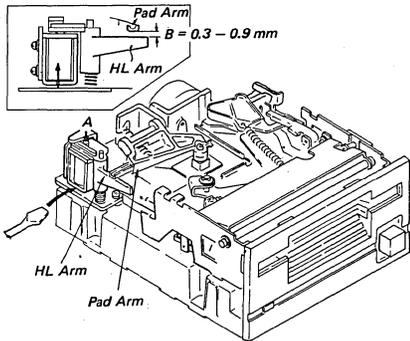

Fig. 5-9 HL Arm Height Adjustment
- d. Push down the plunger core of the head, load ass'y at point A. (Refer to Fig. 5-9)
- e. Check if clearance B between the HL Arm and pad arm is set at a value within the range of 0.3 to 0.9 mm. (Refer to Fig. 5-9)
- b. Insert a ⊖ driver beneath the plunger solenoid and slowly push up the plunger solenoid until clearance B becomes the specified value. (Refer to Fig. 5-9)